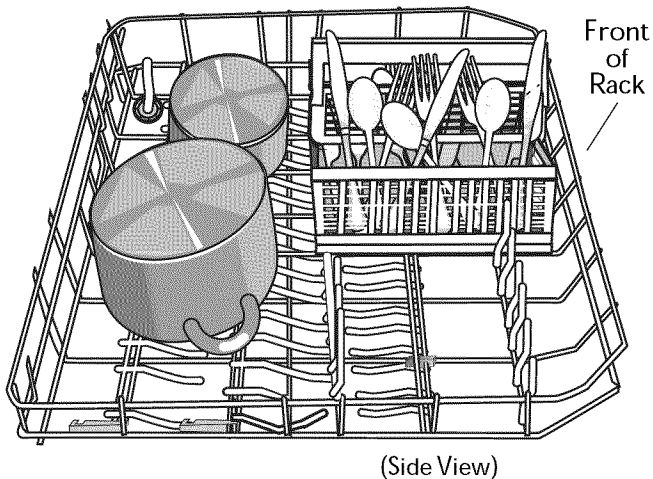

Figure 6. Lower Rack with Rear Tines Folded Flat
- If more space is needed for pots and pans, the rear two sets of tines can be folded to the down position, on all models, or the rear three sets of tines, on some models. **Figure 6** shows lower basket with rear three sets of tines in the down position to accommodate large pots.